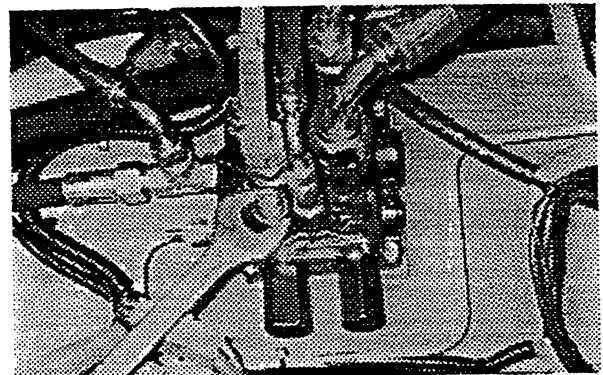

Fig. 3/3
- Loose setting lockout nut with a 24 mm wrench (see Fig. 3/3)
- tighten setting lockout nut (Fig. 3/3)